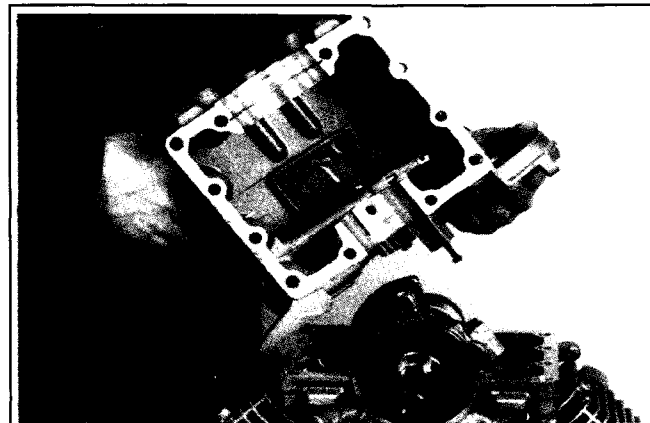

Figure 9-45. Removing Lower Crankcase Half.
- Lift the lower crankcase half off the upper half. See Figure 9-45.